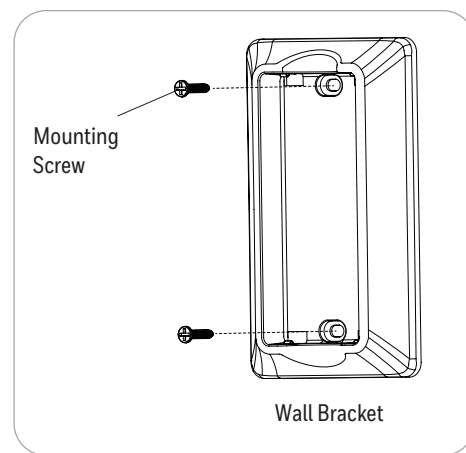

Figure 5.9
9. If desired, the wall bracket can be attached to a wall using the mounting screws (Figure 5.9).